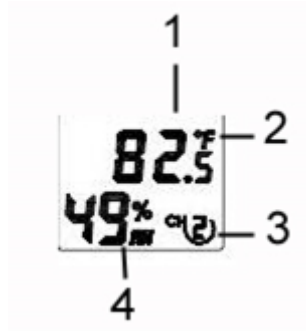

Figure 8
2. Verify the correct channel number (CH) and temperature units of measure (°F vs. °C) are on the display, as shown in Figure 8.